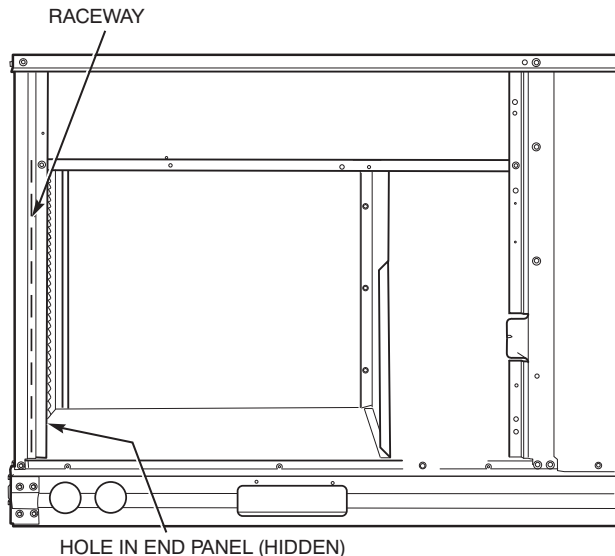

Fig. 29 - Field Control Wiring Raceway
Pass the thermostat control wires through the hole provided in the corner post; then feed the wires through the raceway built into the corner post to the control box. Pull the wires over to the terminal strip on the upper-left corner of the Controls Connection Board. See Fig. 29.
2. Feed wires through the raceway built into the corner post (see Fig. 29) to the 24-v barrier located on the left side of the control box. The raceway provides the UL-required clearance between high-voltage and low-voltage wiring.